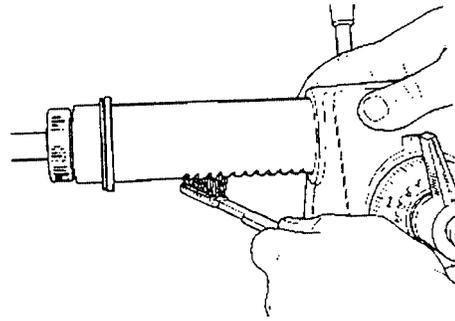

Figure D-7
- b. **Quill** - Extend the quill as far as it will go, lock it in place, then wax. After waxing, brush the rack with a stiff brush to remove all the residue between the teeth, as shown in Figure D-7.